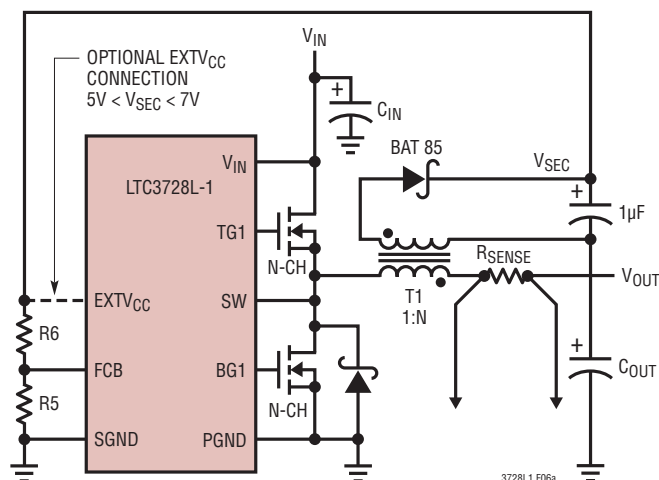
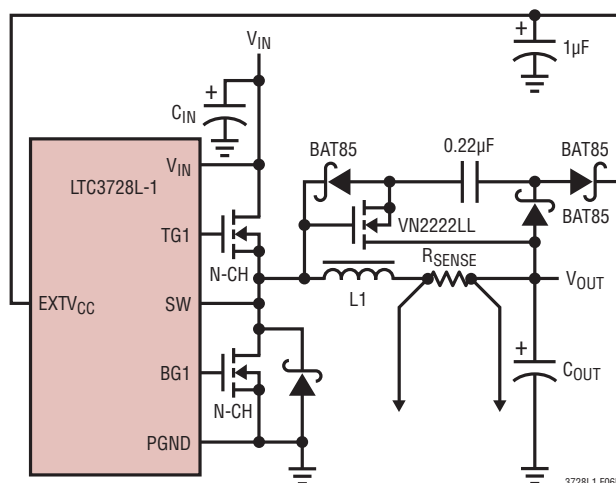

Figure 6a. Secondary Output Loop & EXT_{V_{CC}} Connection
Figure 6b. Capacitive Charge Pump for EXT_{VCC}
4. EXTV_{CC} Connected to an Output-Derived Boost Network. For 3.3V and other low voltage regulators, efficiency gains can still be realized by connecting EXTV_{CC} to an output-derived voltage that has been boosted to greater than 4.7V. This can be done with either the inductive boost winding as shown in Figure 6a or the capacitive charge pump shown in Figure 6b. The charge pump has the advantage of simple magnetics.
The secondary output voltage V_{SEC} is normally set as shown in Figure 6a by the turns ratio N of the transformer: